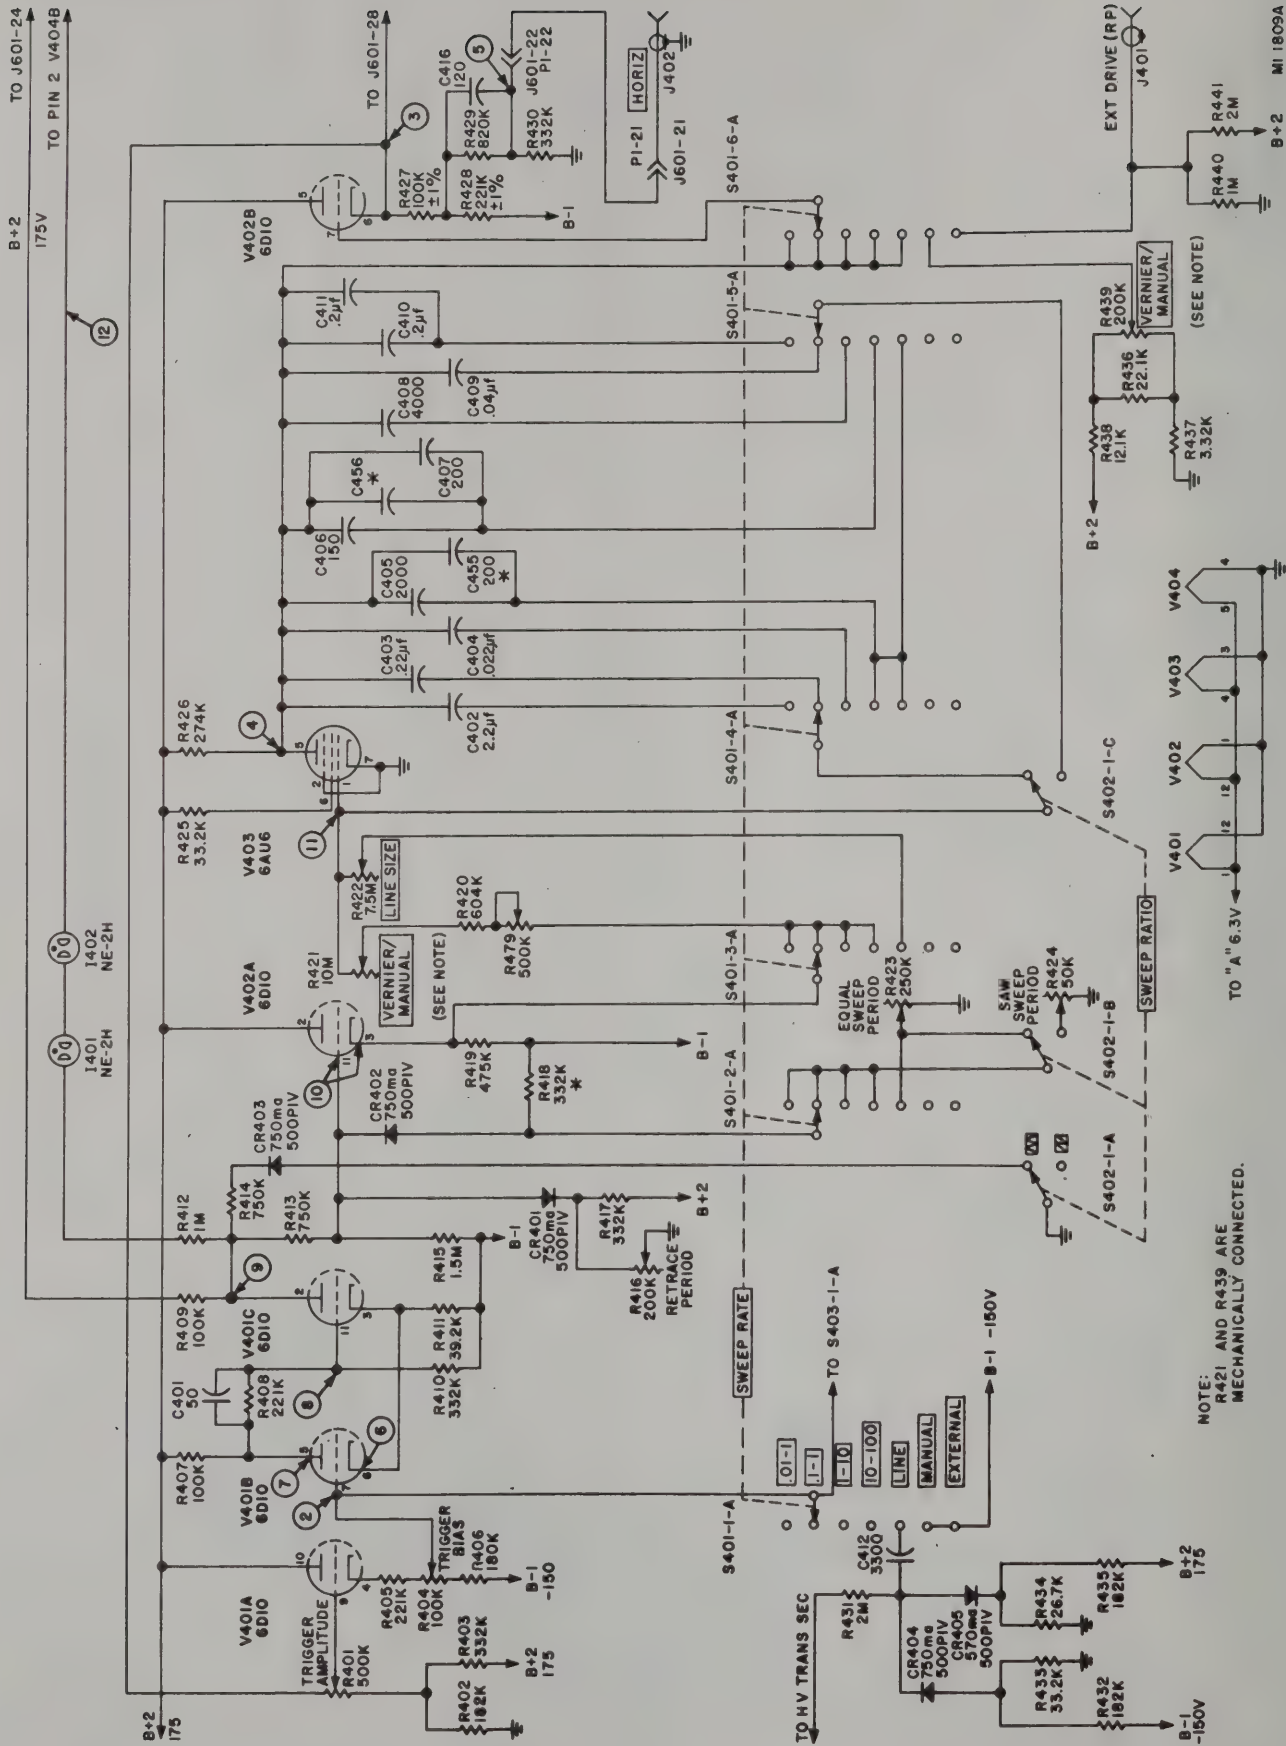

Figure 4-3. Vari-rate circuit.
a. MONITOR switches S301, V301, V302, V303, and V304 together comprise the ALC circuitry (fig. 4-3). The purpose of ALC is to maintain the B+ of the sweep oscillator at a constant level in order to hold the RF1 output at a constant power level.
a. The sweep drive is derived from the output of V403, combination of C402 through C411, and V402B in the sweep rate circuit (fig. 4-3). It is applied to varactor diode CR803 in the S-100B sweep oscillator. The sweep is labeled VARACTOR DRIVE on the functional schematic.
a. *Sweep Rate.* V401, V402, and V403 comprise the sweep-rate circuitry (fig. 4-3). A sawtooth or triangular waveform, dependent upon SWEEP RATIO (S402) setting, is used as the sweep drive for the S-100B and for the output at HORIZ (J402). The sweep-drive waveform is developed as follows:
a. The purpose of this circuit is to produce a zero base line in the SWEEP and MOD SWEEP modes by removing B+ from the sweep oscillator during sweep retrace. Therefore, the blanking circuit (fig. 4-3) is operative in the SWEEP and MOD SWEEP positions of RF FUNCTION S403 only.